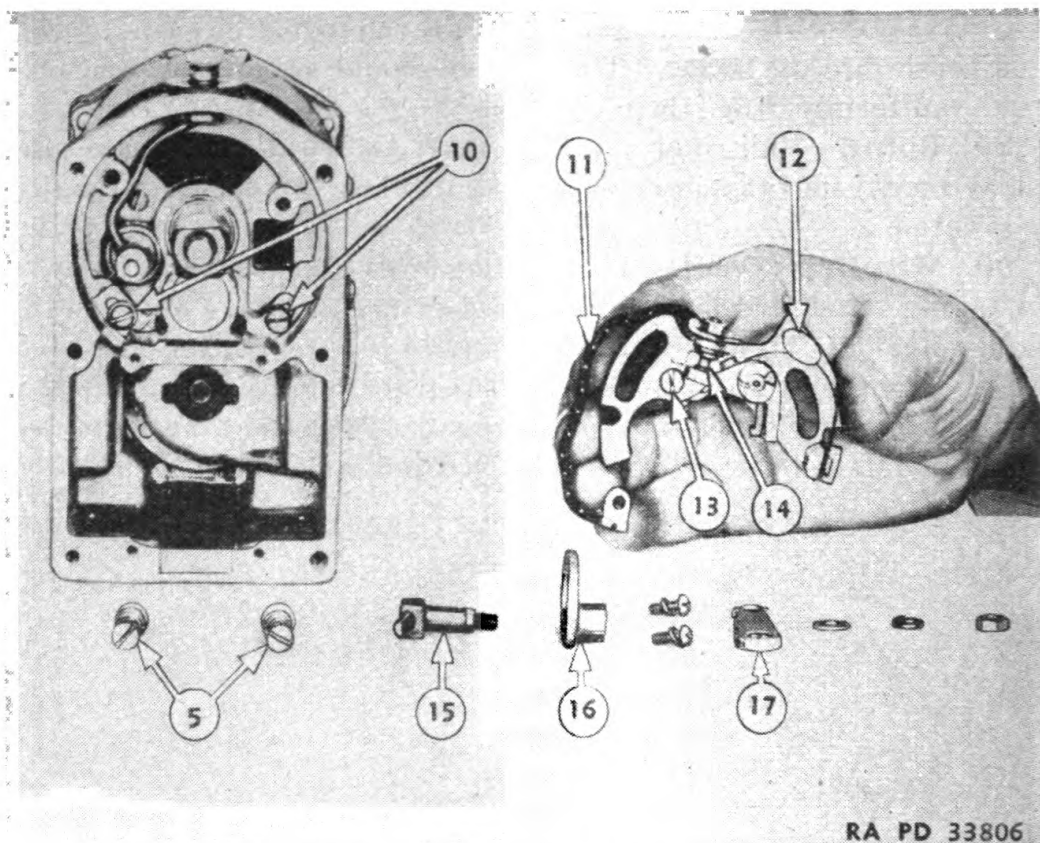

FIGURE 91.—Breaker assembly.
91. Breaker assembly.—In order not to disturb the spark advance fork stops (10) when removing breaker assembly (fig. 91), take off spark advance lever (17), plate (16), and lever assembly (15). Re-
93. Adjustment.—Insert a .020 inch feeler gage between contact points (14) after positioning the breaker lever bumper block on a high point of the cam. To adjust the gap, loosen screw (13) (fig. 91) which secures the adjustable contact point bracket and move the bracket by inserting a screw driver in the space between the head of the screw and the lip on the bracket. Move the bracket to obtain .020 inch gap. Tighten screw (13).
d. Loosen fork stop screws (10) (fig. 91) and shift breaker plate until the contact points just start to separate.